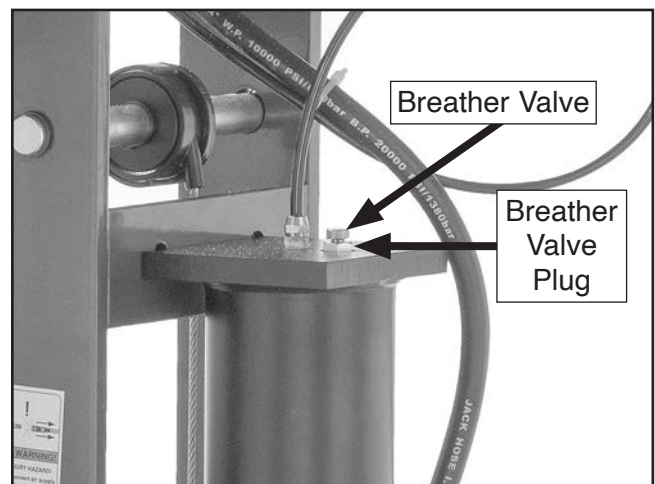

Figure 37. Location of breather valve plug.
4. Remove breather valve plug (see **Figure 37**) and verify hydraulic oil level: